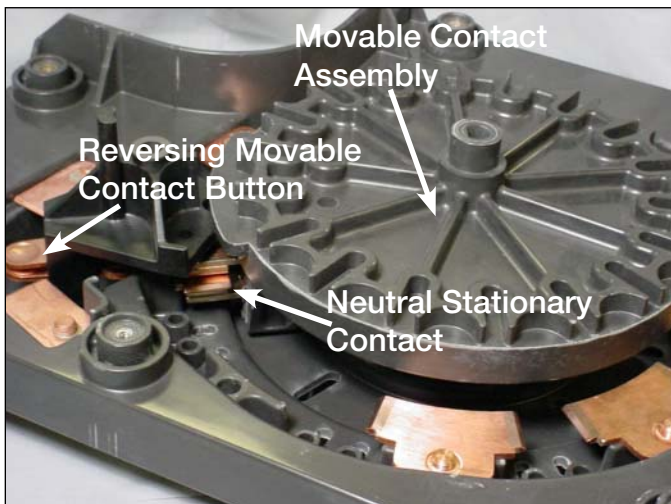

Figure 29.
17. Rotate the main movable contact Geneva gear assembly onto the neutral stationary contact, located under the reversing switch assembly, locating the reversing movable so that the button contact is between VR & VL stationaries. See Figure 29.